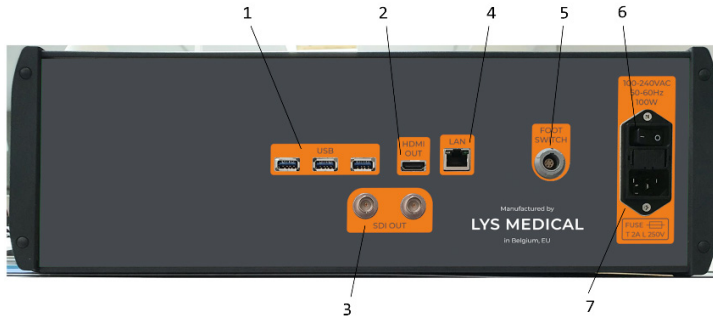

Figure 4 - Control box rear
1. Install the control box in the endoscopy suite 1 m from the patient at most and close to the endoscopy trolley (see Figure 6) making sure that the ON/OFF switch and the power cable (see No. 6 and No. 7 of Figure 4) are always accessible to disconnect the control box.
3. Connect the various cables to the control box (see Figure 4) to check the position of the various ports):